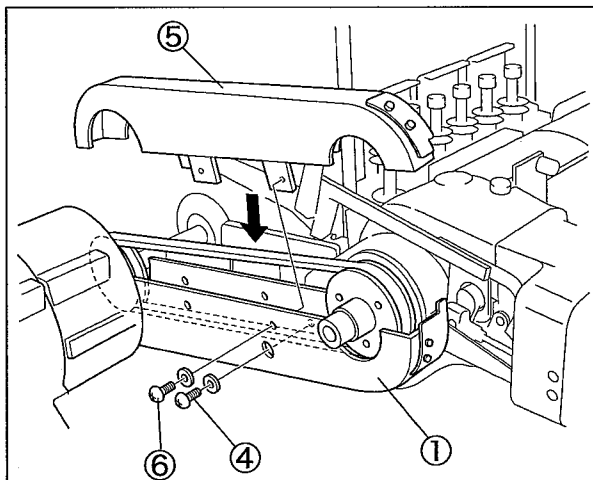
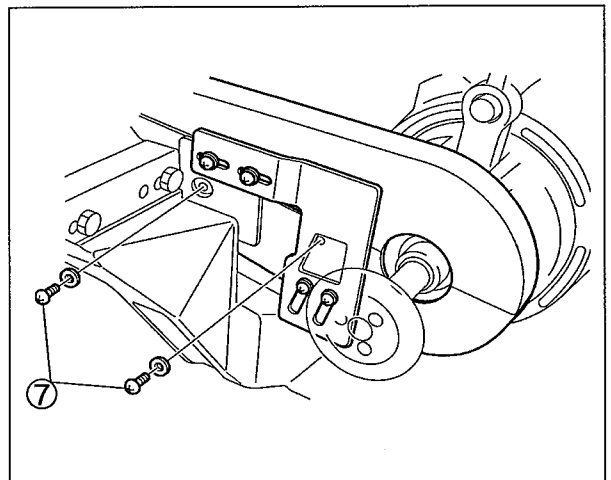

Fig.1-8
Fig.1-9
- (2) Fix the belt cover(lower)① on the sewing machine supporting block with the screw ④. (Fig. 1-8)
- (3) Set the belt cover(upper)⑤ on the belt cover(lower)① with four screws ⑥⑦. (Fig. 1-8 and Fig. 1-9)